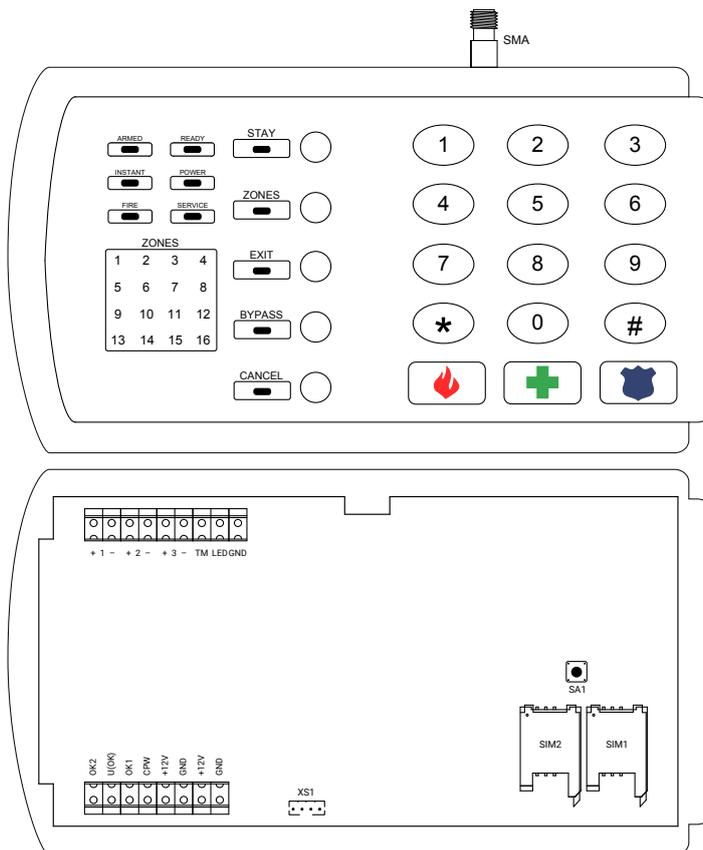

Figure 1. Contact GSM-9N
2. With external GSM-antenna In this case the device has a connector for the antenna (SMA connector on the fig. 1).